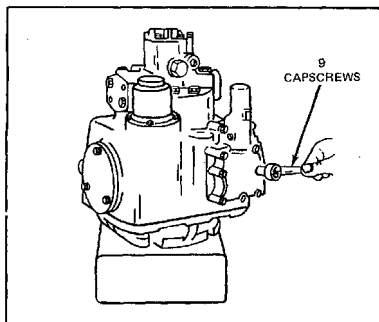

Figure 13.
2. Remove the nine capscrews holding valve to pump housing (refer to Fig. 13).